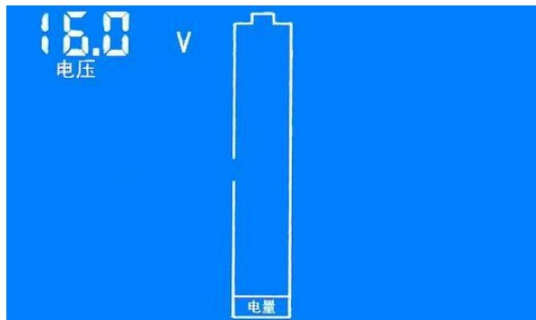

Figure 5: cut-off voltage setting interface (low bit)
Step 1: After you set the full voltage, loner press the button until LCD shows the interface of Fig. 5, then release the button;